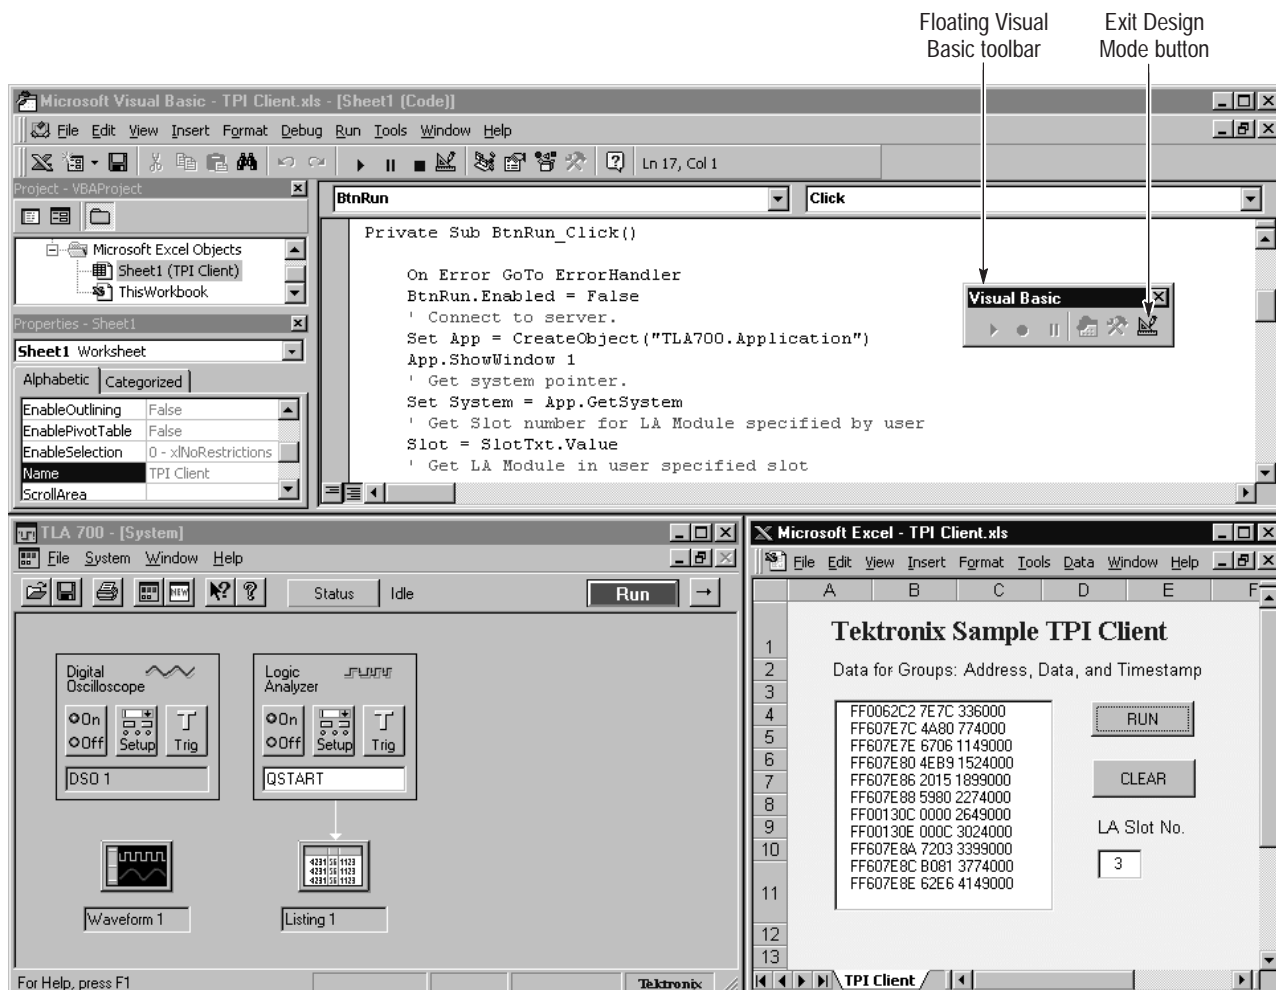

Figure 4–35: Results after clicking on the client application RUN button
9. Figures 4–36 and 4–37 show the contents of all the subroutines in the VBA client application.